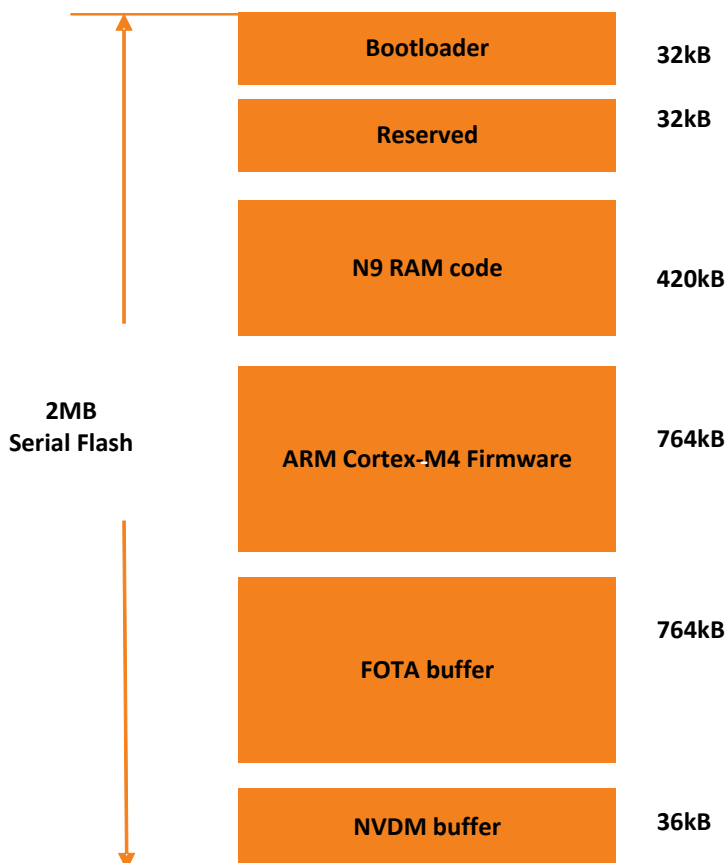

Figure 2.1-1. The load view of the 2MB flash memory layout
MT7687F has 2MB internal serial flash memory. The load view on the flash memory of the HDK is shown in Figure 2.1-1.
- Non-Volatile Data Management (NVDM) buffer. There are two blocks reserved for the NVDM buffer management. The first NVDM buffer after the Bootloader (see Figure 2.1-1) is not configurable, but the second NVDM buffer is configurable, see section 2.4, “Memory layout adjustment with a linker script” for more details.
NVDM buffer	The first NVDM buffer located after the Bootloader is not configurable, no need to modify. The second NVDM buffer starting address and size are configurable (see Figure 2.1-1).